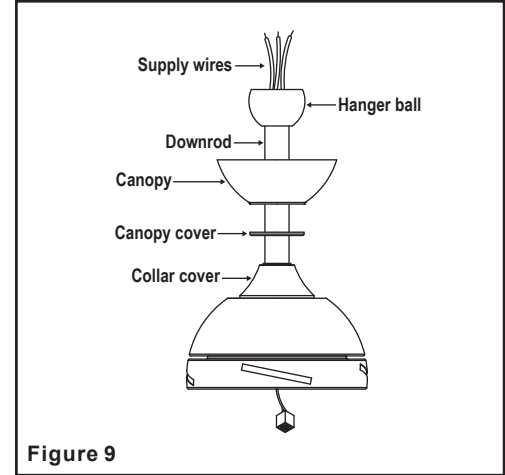

Figure 9
**Step 10.** Carefully reinstall the hanger ball onto the downrod. Being sure that the cross pin is in the correct position, the set screw is tightened and wires are not twisted. (Fig. 9)